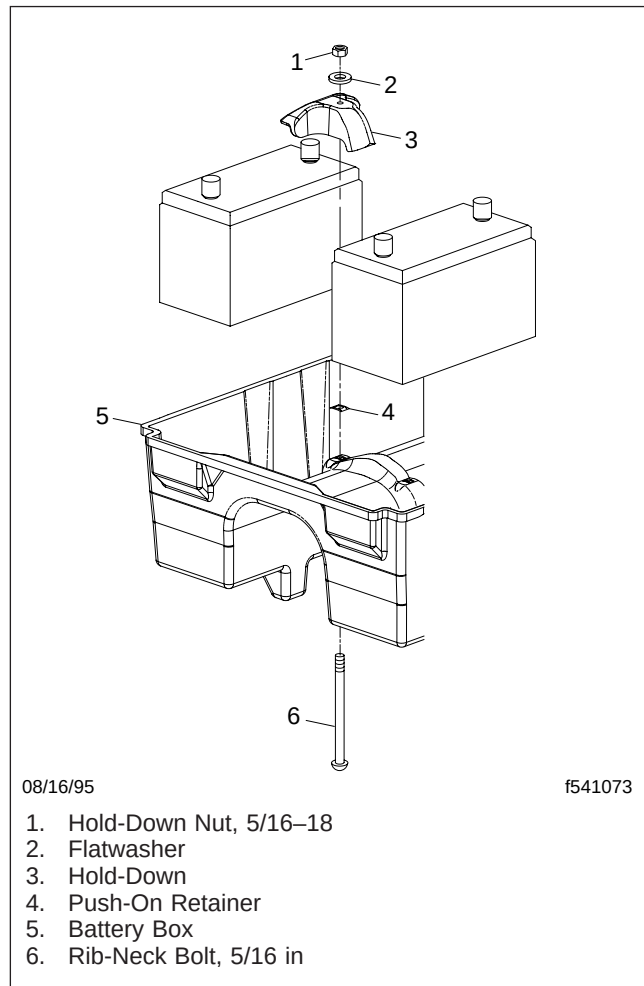

Fig. 5, Battery Hold-Downs
3. Remove the battery hold-downs. See Fig. 5.